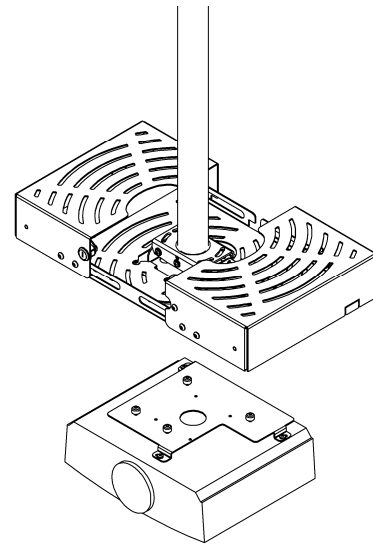

Figure 4. Install Projector
8. Install the projector (see Figure 4).